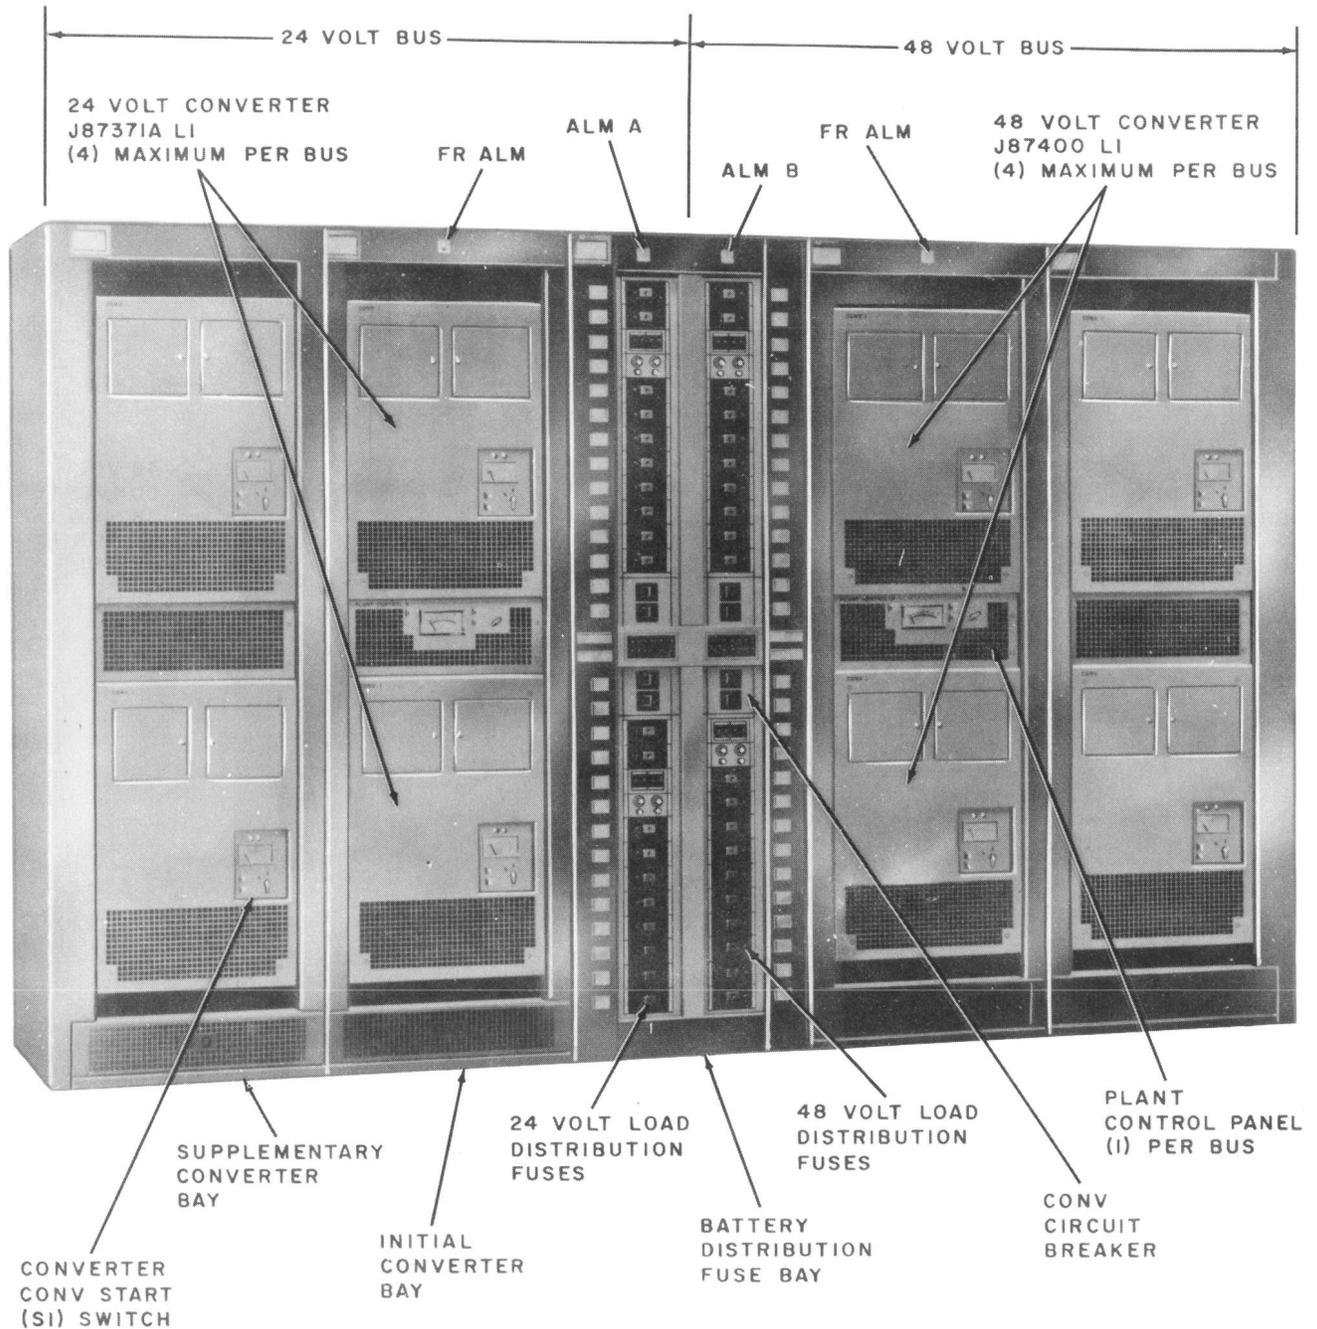

Fig. 1—Fully Equipped 630A Power Plant—Front View
**1.01** The 630A (J86900) converter power plant operates from a positive or negative 140-volt dc input and provides a dual output of positive 24 volts and negative 48 volts. Four J87371A 100-ampere converters supply the 24-volt bus with a maximum output of 300 amperes. Four J87400A 50-ampere converters supply the 48-volt bus with a maximum output of 150 amperes. Plants for lesser current ratings may be provided by using fewer converters. For each bus the number of converters provided to serve any given load is equal to the minimum number of converters required to provide the desired output current plus one additional converter. Thus, a redundant converter is on line at all times. The redundant converter normally shares the load. If a converter fails in the plant, capacity will not be reduced. The 630A dc-to-dc converter plant is a general purpose plant and may be used whenever its characteristics and design apply. Refer to Fig. 1 and 2 for typical 630A power plant arrangements.